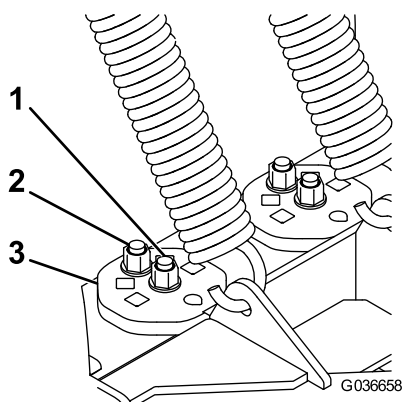

Figure 28
3. On the cams, remove the bolt in the square hole and loosen the bolt in the center (Figure 28).